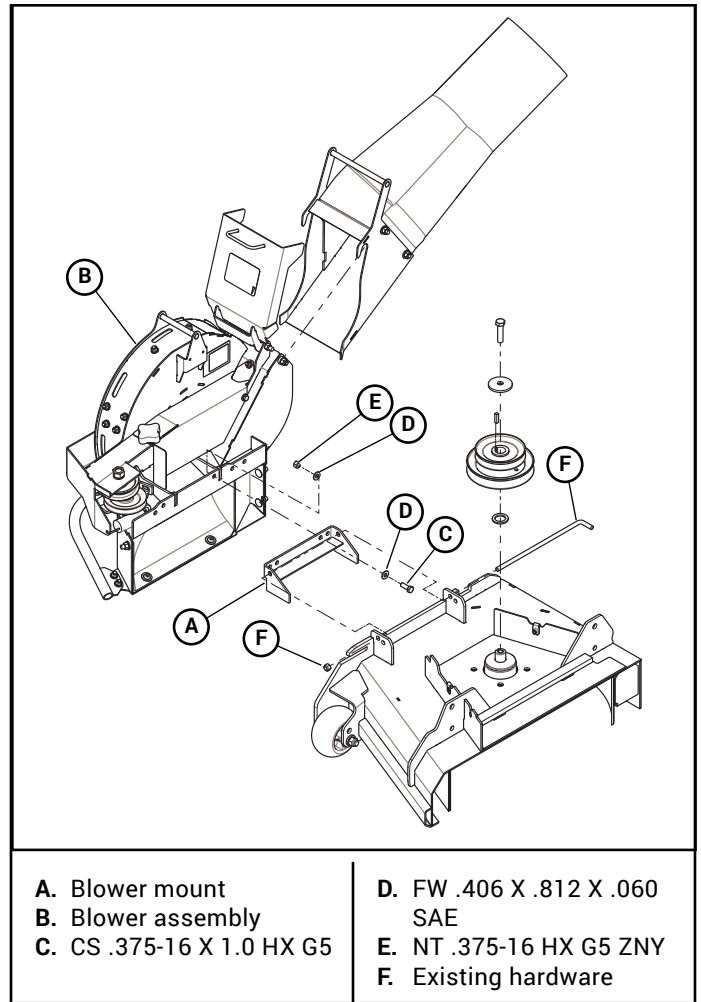

Figure 3-4
9. Assemble the blower mount to the blower assembly. Figure 3-4
10. Attach the blower assembly to the deck by inserting the rod through the discharge chute bracket and the blower mount and secure with a nut. Figure 3-4